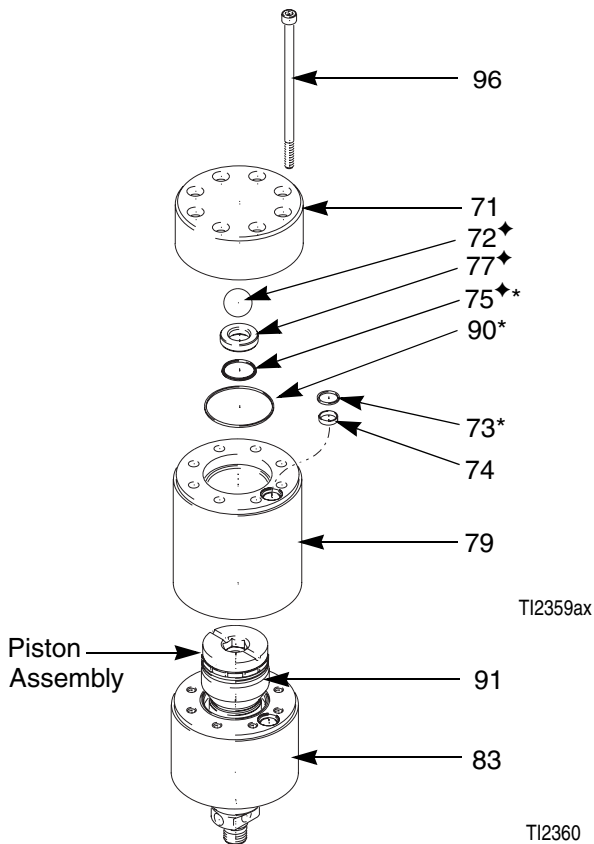

FIG. 11
2. Loosen and remove screws (96). See FIG. 11.
3. Remove the valve housing (71). This allows access to the pressure valve. Evaluate the ball (72♦) and seat (77♦) and replace if worn.
6. Install the piston assembly into the packing housing (83). Install seals (80*, 74, and 73*) into valve housing (83). Replace seals 73* and 80* as necessary. See FIG. 11.
7. Install the cylinder (79). Replace the cylinder if it shows signs of wear.
8. Install seals (90*, 74, and 73*) into the cylinder (79). Replace seals (90* and 73*) as necessary.
10. Install the valve housing (71).
11. Install screws (96) and torque to 24.4-25.8 N•m (216-228 in-lb).